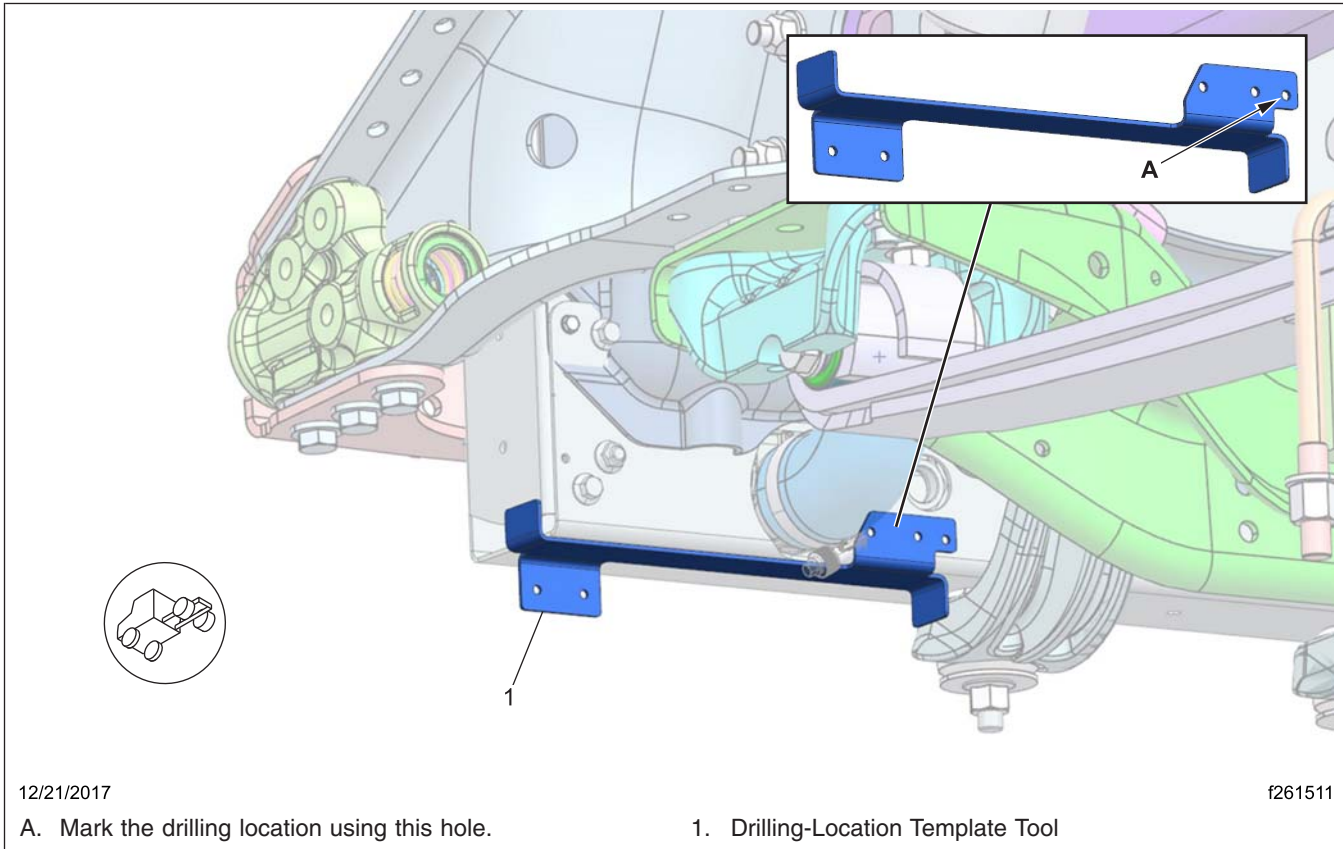

Fig. 8, Drilling Location on the Back of the Radiator Frame
- 16.2 If the radiator frame does not have a hole for the jumper-line support bracket, position the template tool (07-24621-000) on the bottom left corner of the radiator frame, and mark the drilling location on the back of the radiator frame for the jumper-line support bracket hole, as shown in Fig. 8.